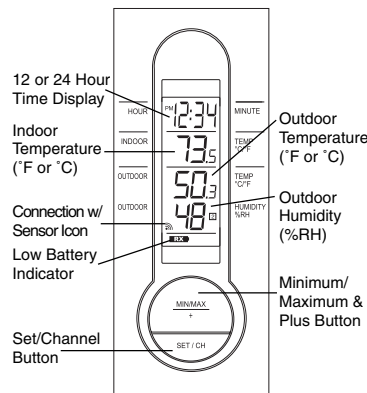

Figure 1
1. Wireless Weather Station (Figure 1)